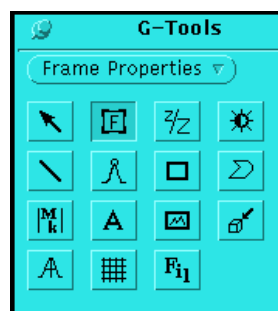

Figure 55. Graphics Tools Window
- Open the Graphics Tools window, shown in **Figure 55**, by clicking on the Tools option with the left mouse button.
3. To select a number of Gframes, click on the Frame option in the graphics tools menu shown in **Figure 55**. Select each frame with the middle mouse button to append each frame to a selection list.